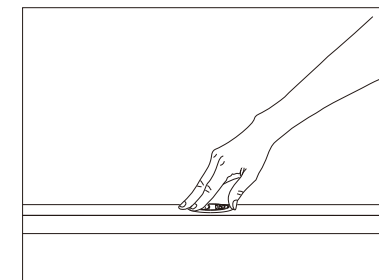
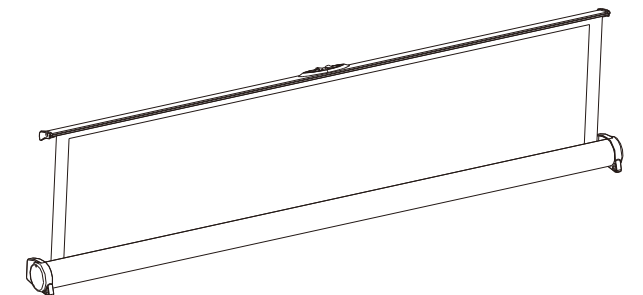
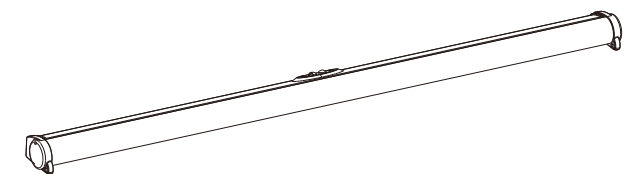

Figure4-1
Figure4-2
Figure4-4
2. According to figure 4-1, using fingers to hold the opener and push the screen down (figure 4-2). Please ensure that the cover is locked to the casing that the retracting is completed (figure 4-4).